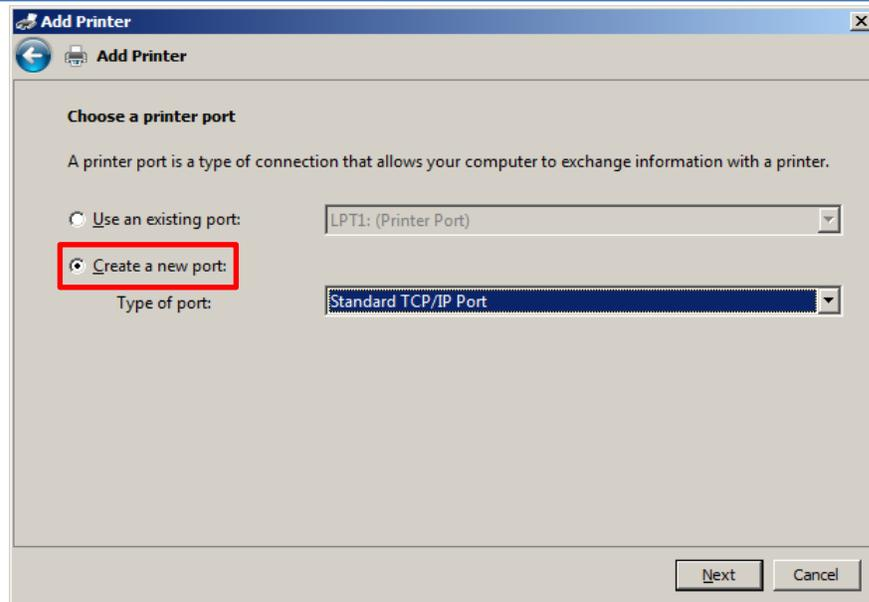

Figure 10-34 - Configure Local TCP/IP port settings
14) Select **Create a new port:** Next to **Type of port:** select **Standard TCP/IP port** and click **Next** as shown in Figure 10-34.